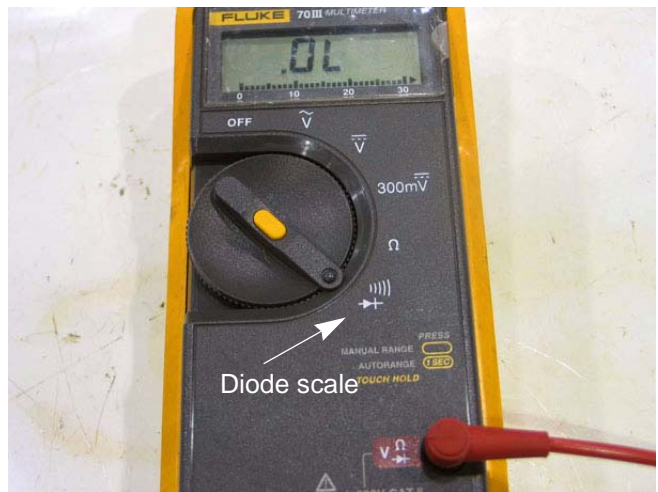

Figure 7.57
2. Set the DMM to the diode or Ω scale. See Figure 7.57.